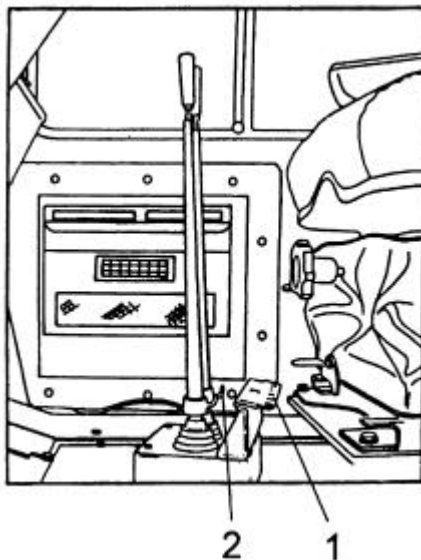

Fig. 4.8. Control Lever Locking Plate
53. CONTROL LEVER LOCKING PLATE (FIG. 4.8)